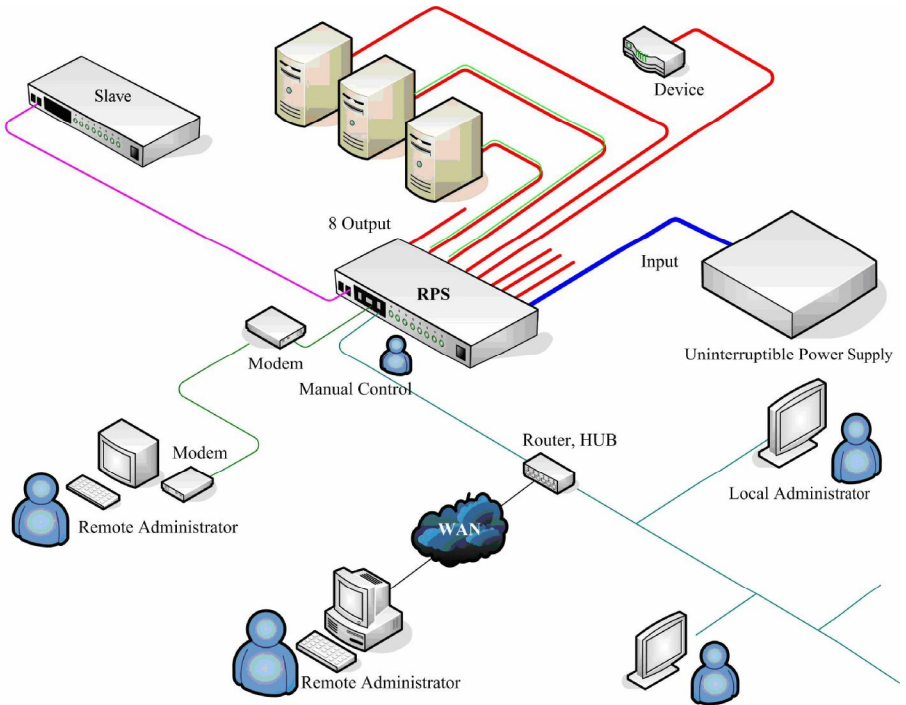

Figure 5 RPS connection diagram
3. Connect an Ethernet cable to Ethernet port of the RPS – see Figure 5.